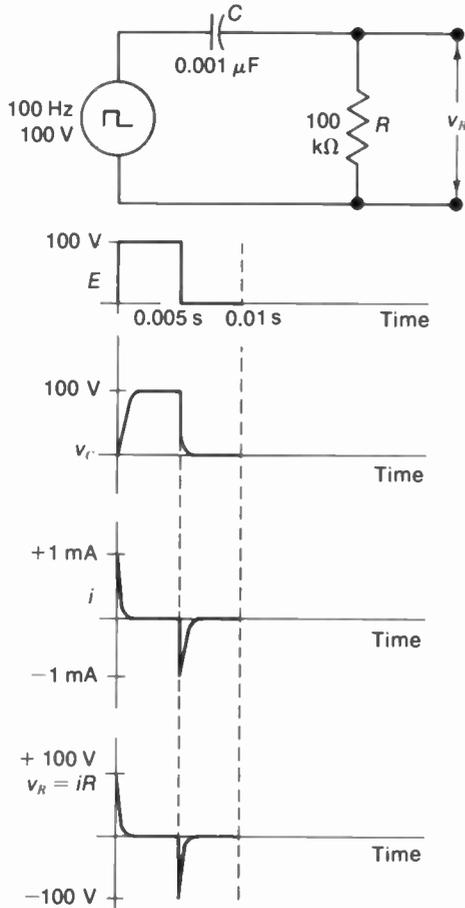

FIGURE D-4
short time constant, therefore, the applied voltage is mainly across  $C$ . An example of a short time constant is shown for the differentiating circuit in Fig. D-4.
**Differentiated output.** In an  $RC$  circuit with a short time constant, the voltage across  $R$  is called differentiated output because its amplitude can change instantaneously, in either polarity. In Fig. D-4, the voltage across  $R$  consists of positive and negative spikes corresponding to